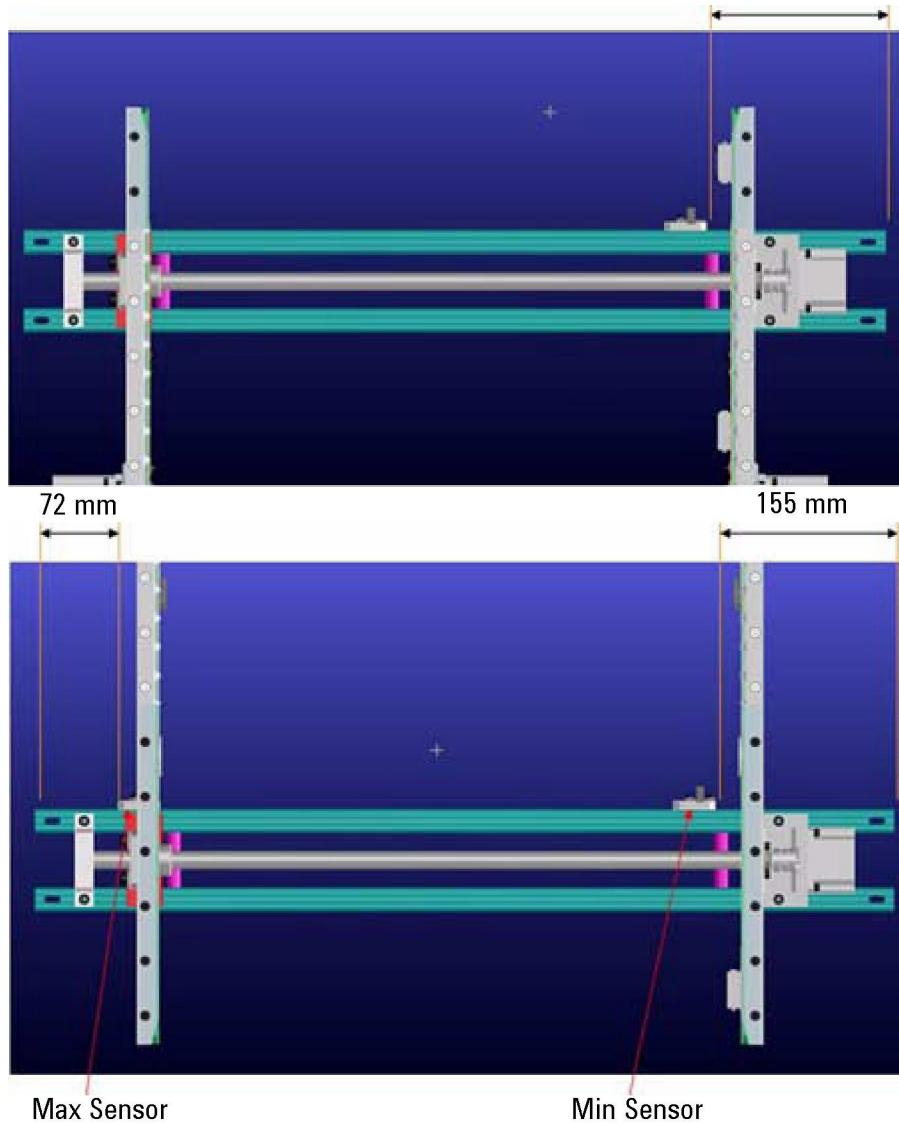

Figure 7-1: Sensor Positions
**Figure 7-1** shows the sensor distances to be set. Use a steel ruler to measure from the base to the sensor edge. If the measurements are different from those shown, loosen the sensor setting screw, adjust the sensor position, and tighten the screw to secure the sensor.